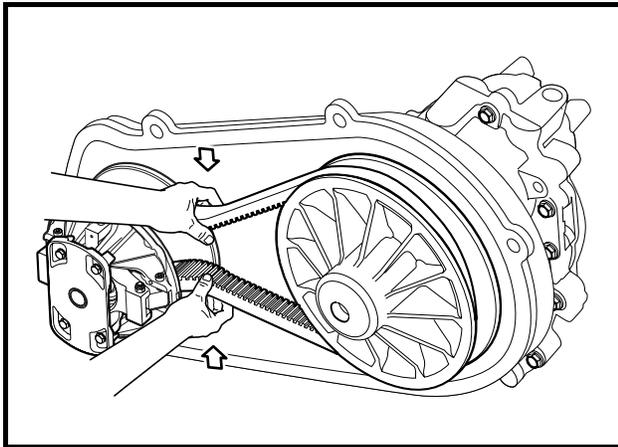

Figure 13b-35 Drive Belt Removal
5. Guide the belt over the driven clutch and roll the belt off the driven clutch by rotating the clutch clockwise (**Figure 13b-35, Page 13b-30**). **See following CAUTION.**